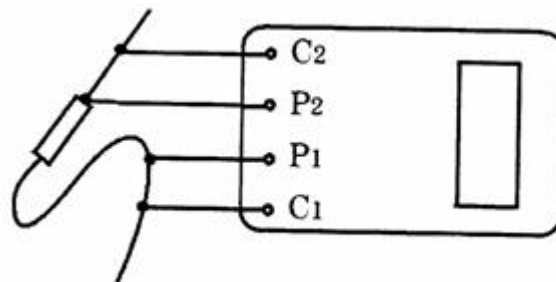

Figure 3
3. Conductor resistance measurement (Fig. 3)